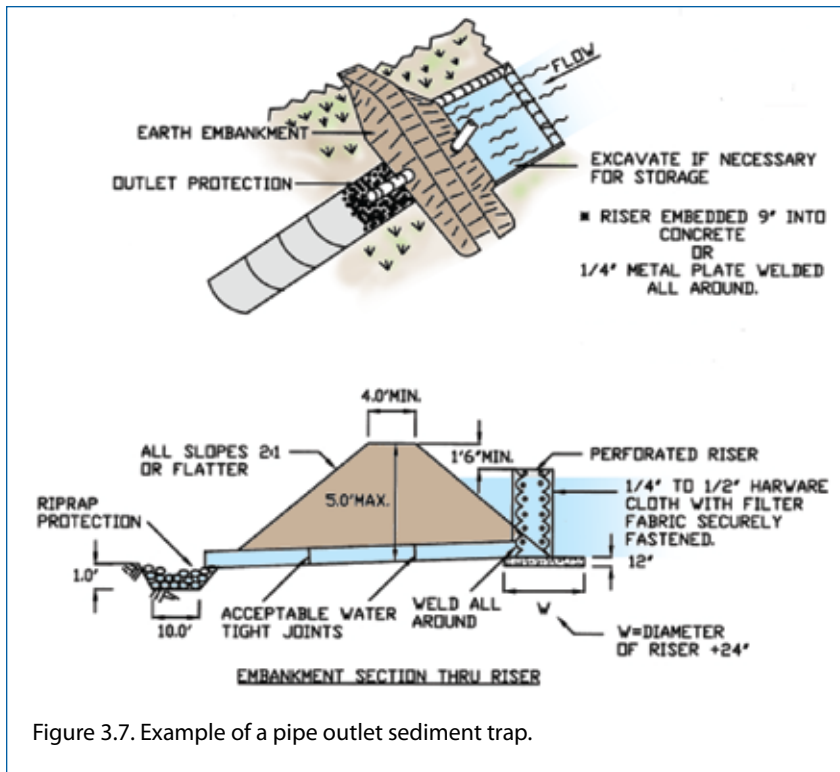
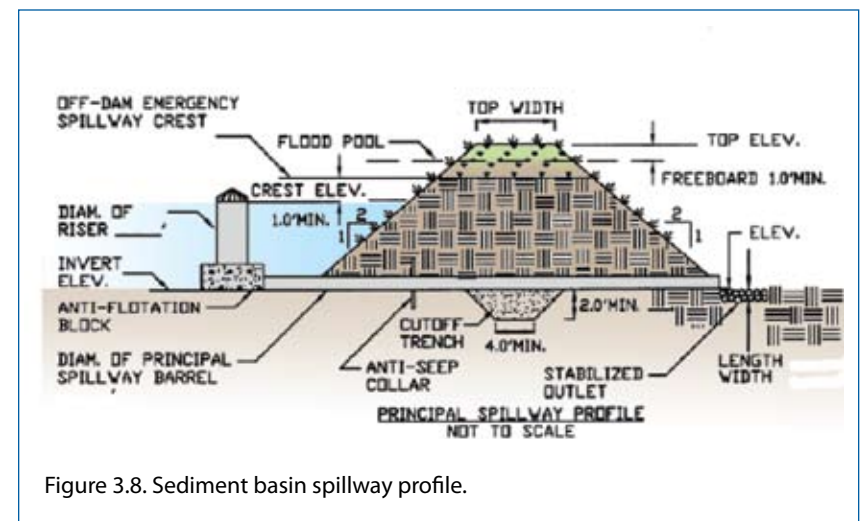

Figure 3.7. Example of a pipe outlet sediment trap.
Figure 3.8. Sediment basin spillway profile.
- Locate traps (Figure 3.7) and basins (Figure 3.8) to obtain maximum storage, ease cleanout, and